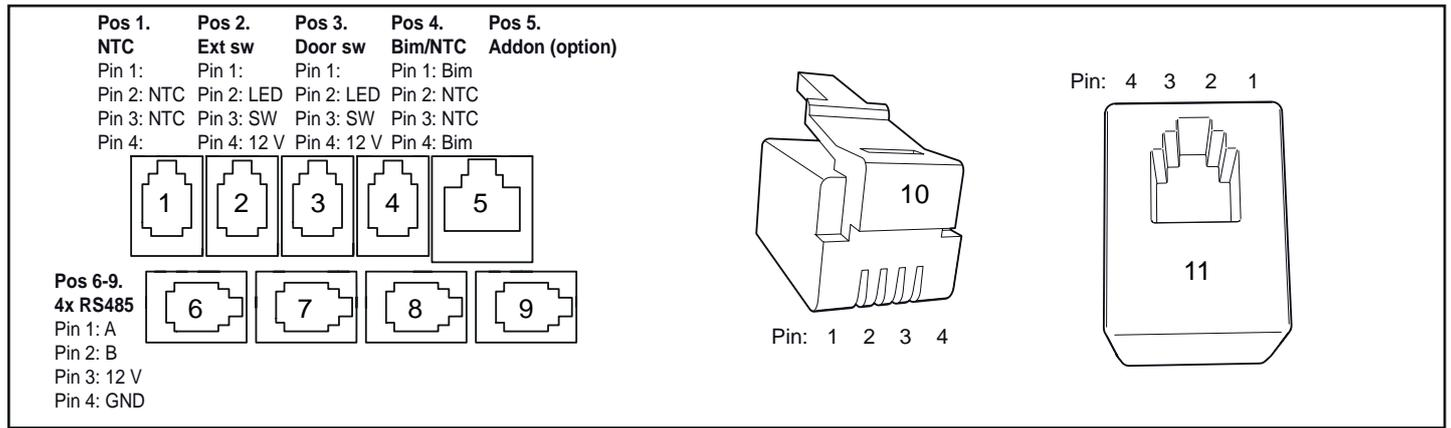

Figure 19: Modular contacts, description (Pos 1-4 and 6-9: RJ10, Pos 5: RJ45)
- 1. Modular plug (RJ10, see Fig 19)